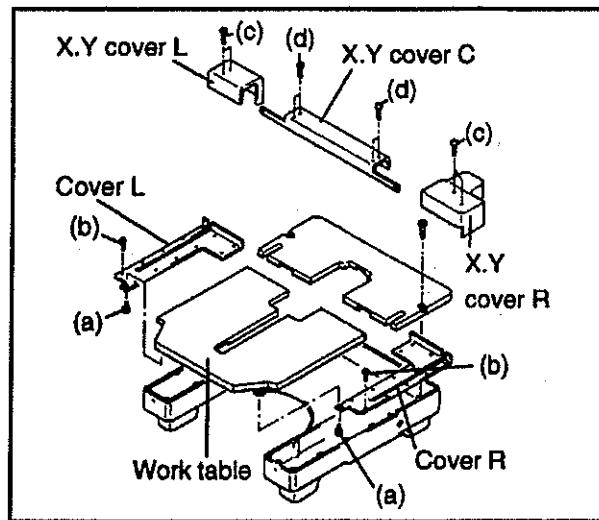

FIG.1
- (4) Loosen four retaining screws (d) and remove X.Y cover C (Fig.1).